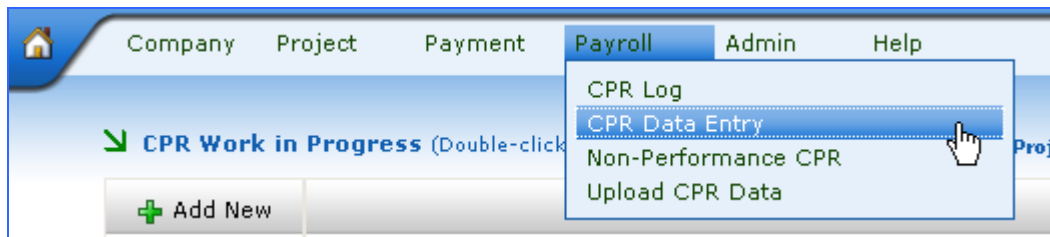

Figure 99 - Main Project Screen
2. From the Payroll Reporting menu, scroll down and select “CPR Data Entry” (Figure 99).
2. From the Payroll Reporting menu, scroll down and select "Non-Performance CPR" (Figure 99).